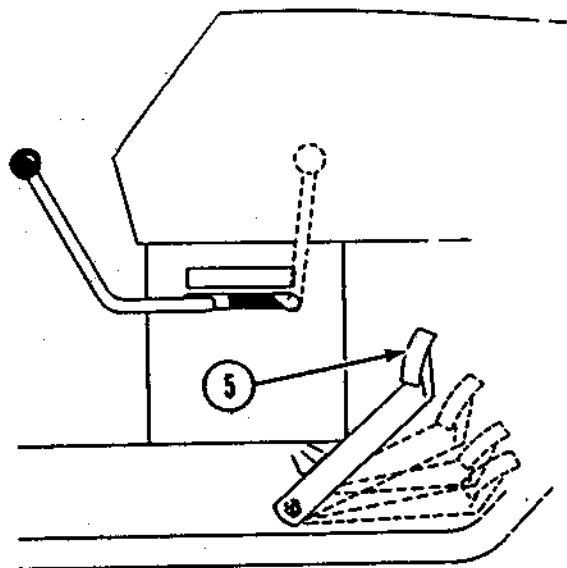

Figure 4
- 5 CLUTCH BRAKE PEDAL** (Gear Shift Models) — Figure 4
1. Lock the parking brake **6** by depressing the foot pedal Figure 4, and pushing the brake lock forward to lock the parking brake.